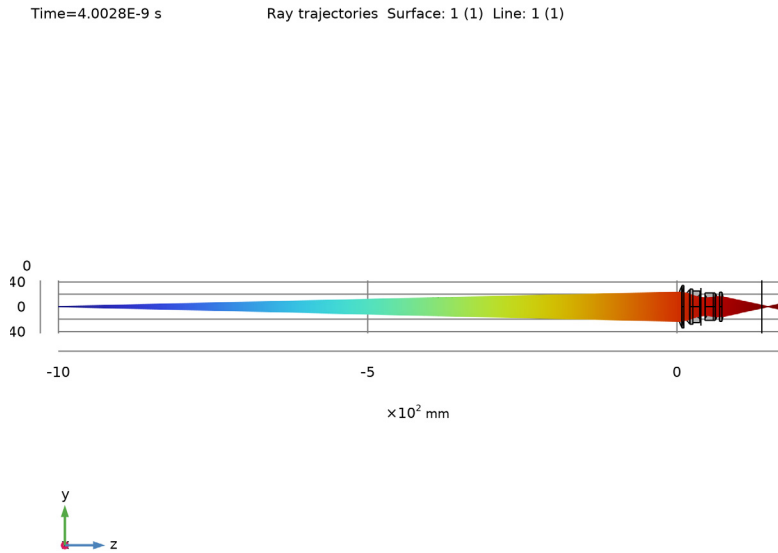

Figure 2: A ray diagram showing the finite conjugate ray trace. The rays now pass through the nominal focal plane.
We do this by releasing a cone of rays from the point on the optical axis intersecting the object plane. The rays can be made to ignore the image surface because, as can be seen in the Ray Diagram shown in Figure 2, the focus is now somewhere behind this plane.
- 4 Click the  **Zoom Extents** button in the **Graphics** toolbar. Compare the result to Figure 2.